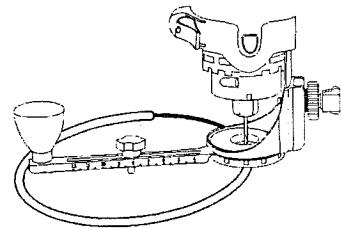

Fig. 14
6. When the motor is up to full speed, slowly tip the circle cutter assembly to an upright position, letting the bit cut into the workpiece (see Fig. 14) careful to keep the pivot point located at the center of the circle to be cut. Once the tool has reached the upright position and the bit has cut through the workpiece, slowly move the tool in a clockwise direction using slow steady pressure to make the cut. Continue to cut the circle, keeping the tool upright rotating around the circle cutter pivot point.